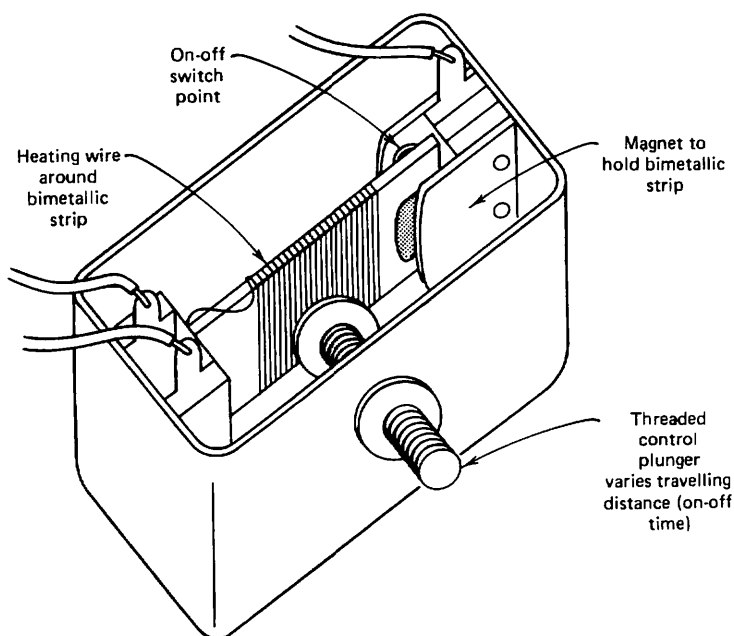

Fig. 85 Inside a mechanical stepless controller.
2. **The mechanical stepless controller.** This appears to be *the* inexpensive replacement for the variable voltage transformer. Inside one model there's a small heating wire wound around a bimetal strip with a magnet at one end (Fig. 85). A plunger connected to the dial on the front panel changes the distance between the magnet and a metal plate. With a heating mantle attached, when you turn the device on, current goes through the small heating wire and the mantle. The mantle is now on *full blast* (120 V out of 120 V from the electric wall socket)! As the small heating wire warms the bimetal strip, the strip expands, distorts, and finally pulls the magnet from its metal plate, opening the circuit. The mantle now cools rapidly (0 V out of 120 V from the wall socket), along with the bimetal strip. Eventually, the strip cools enough to let the magnet get close to that metal plate, and—CLICK—everything's on full tilt again.